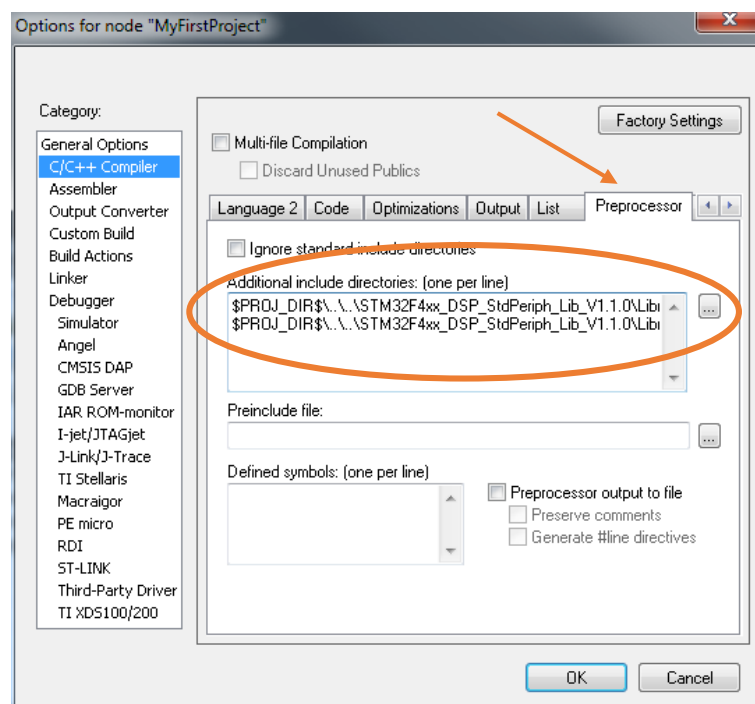

Figure 3.11: State the location of CMSIS header and include files
- The IAR Embedded Workbench needs to know the location of header and include files conforming to CMSIS standard to handle the peripherals, Fig. 3.11. The folders for these files are specified relatively to the directory where the project is located (variable \$PROJ\_DIR\$). From this directory